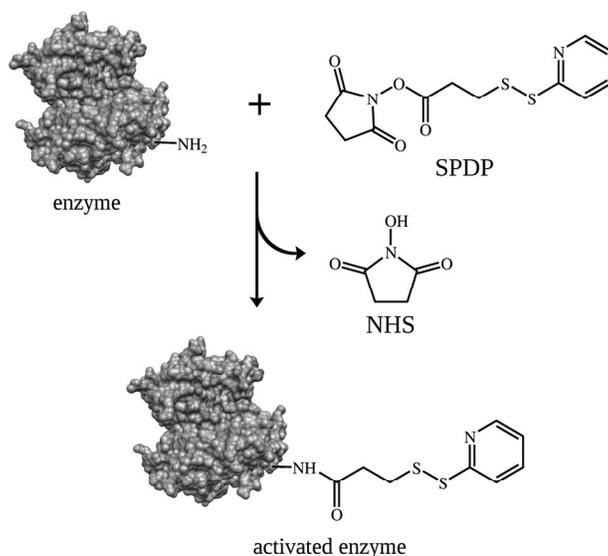

Figure 2. Reaction of the enzyme with the crosslinking reagent.
- Mix the SPDP/DMSO solution with the enzyme solution (Fig 2): The optimal SPDP:enzyme ratio varies for different enzymes, but 3-30 μL of SPDP solution per mL of enzyme solution is appropriate for enzyme concentrations of 1-10 mg/mL (a molar ratio of 5:1 SPDP:enzyme is a good starting point). The reaction will be complete after 30 minutes at room temperature.